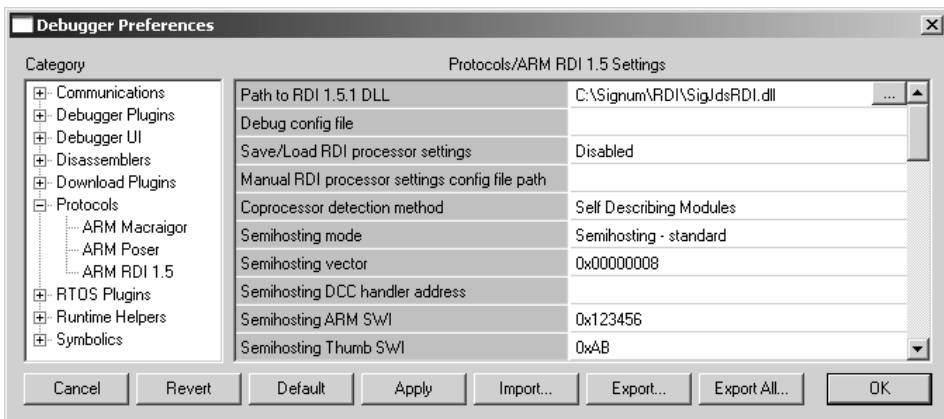

FIGURE 23 Selecting the path to the RDI 1.5 DLL file for the ARM RDI 1.5 protocol.
3. In the Category pane, select ARM RDI 1.5 under the Protocols entry. In the Debugger Plugins/ARM Settings pane, navigate to the SigJdsRDI.dll file to set the Path to RDI DLL entry. In a standard installation, the SigJdsRDI.dll file is located in the C:\Signum\RDI folder. See Figure 23.